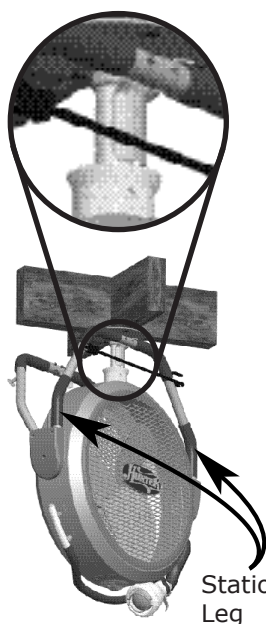
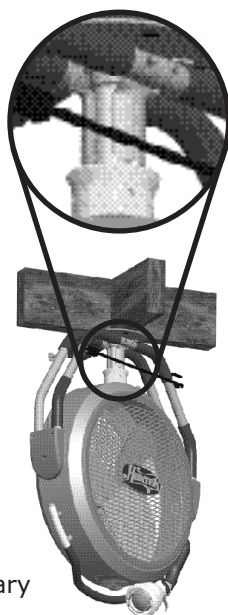
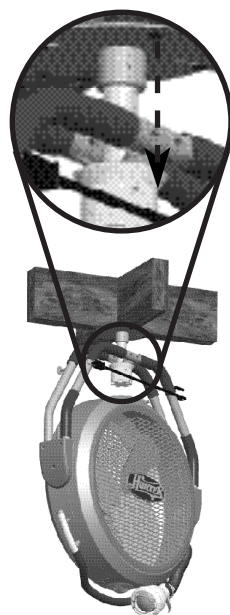

Figure 3a
Figure 3b
Figure 3c
4. Grasp the Stationary Leg and position the Stationary Leg Split Sleeve onto the Downrod, over the Downrod Cup. See Figure 3a. While maintaining your grasp on the Stationary Leg, bring the Adjustable Leg forward, positioning the Adjustable Leg Split Sleeve around the Downrod Cup. See Figure 3b. Lower the Split Sleeve into the Downrod Cup. See Figure 3c